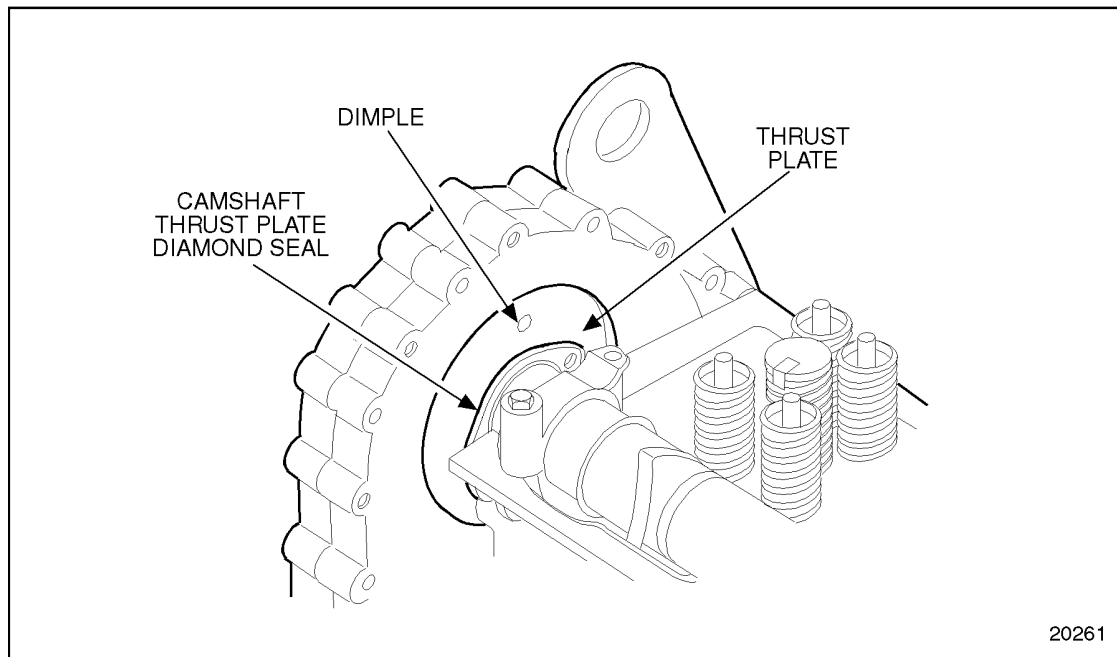

Figure 1-318 Camshaft Thrust Plate Clearance
8. Using an appropriate marker, scribe a vertical locator line across the gear case and the back face of the camshaft thrust plate. This will ensure proper positioning of the thrust plate during reassembly. See Figure 1-318.